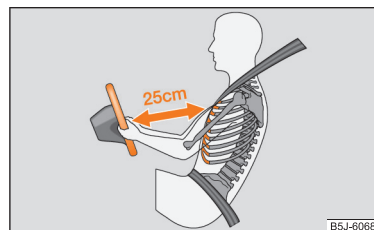

Fig. 116 Safe distance to steering wheel
- **For the driver and front passenger it is important to maintain a distance of at least 25 cm from the steering wheel or dash panel ⇒ **fig. 116**. Not maintaining this minimum distance will mean that the airbag system will not be able to properly protect you - hazard! The front seats and the head restraints must always also be correctly adjusted to match the body size of the occupant.**